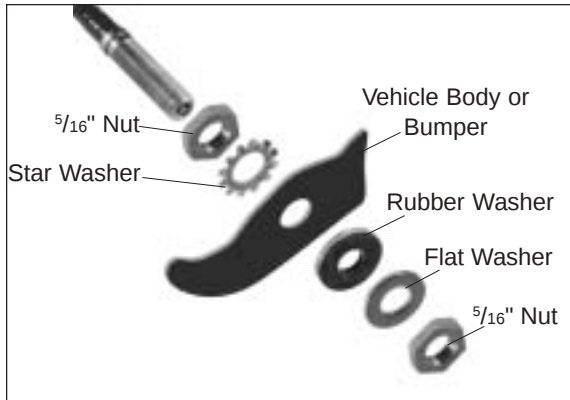

Figure 8
5. Push the inflation valve through the hole and use the rubber washer (EE), flat washer (DD), and another $\frac{5}{16}$ " nut (GG) to secure it in place. Tighten the nuts to secure the assembly in place (Figure 8).
6. Route the air line along the frame to the air fitting on the air spring. Keep at least 6" of clearance between the air line and heat sources, such as the exhaust pipes, muffler, or catalytic converter. Avoid sharp bends and edges. Use the plastic tie straps (BB) to secure the air line to fixed, non-moving points along the chassis. Be sure that the tie straps are tight, but do not pinch the air line. Leave at least 2" of slack to allow for any movement that might pull on the air line.